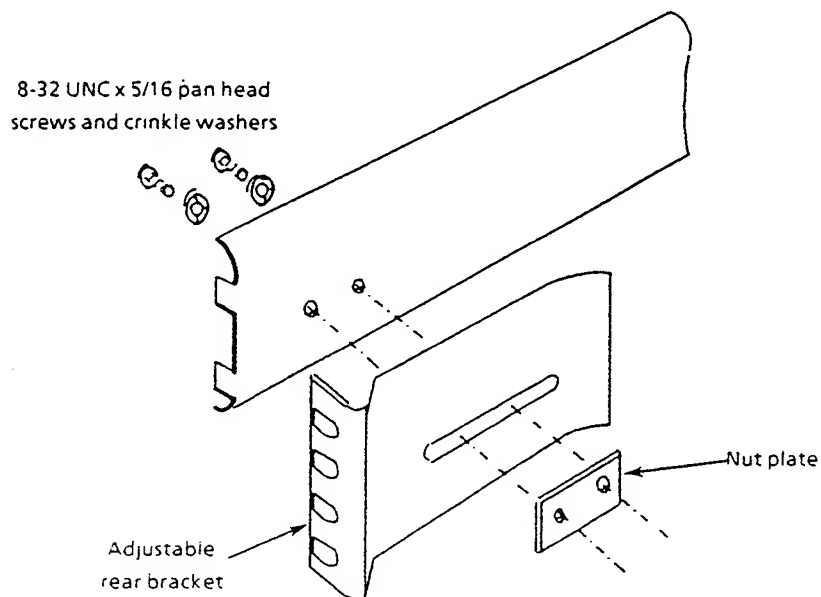

Fig. 2.4 *Fitting a rear bracket*
4.3.3 Fit the following items to the telescopic slide outer members, as shown in Figs. 2.4 and 2.5: